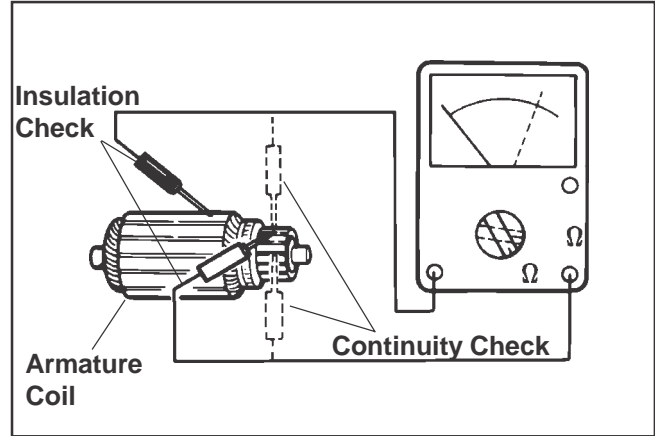

Figure 8-26. Checking Armature.
- Use an ohmmeter set to the Rx1 scale. Touch the probes between two different segments of the commutator, and check for continuity. See Figure 8-26. Test all the segments. Continuity **must** exist between all or the armature is bad.
- Check for continuity between the armature coil segments and the commutator segments. See Figure 8-26. There should be no continuity. If continuity exists between any two, the armature is bad.